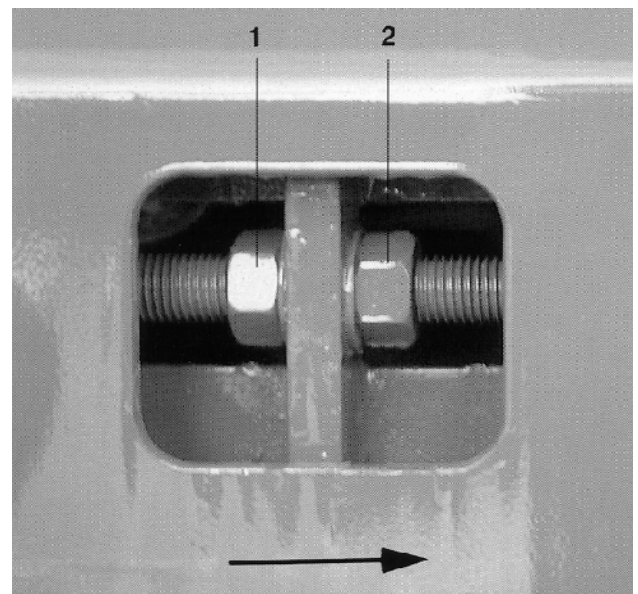

Fig. 61
1. Loosen the rear counter nuts (Fig. 61/1), on both sides by turning them to the left (the direction of travel is indicated by the arrow).
2. Turn the hexagonal nuts (Fig. 61/2) on both sides to the left by the same amount (the direction of travel is indicated by the arrow).
The amount that the hexagonal nuts (Fig. 61/2) have been moved must be the same on both sides of the belt unit. Do not turn the two hexagonal nuts (Fig. 61/2) by more than $\frac{1}{2}$ a spanner turn. Tighten the counter nuts and check whether the conveyor belt is running evenly.